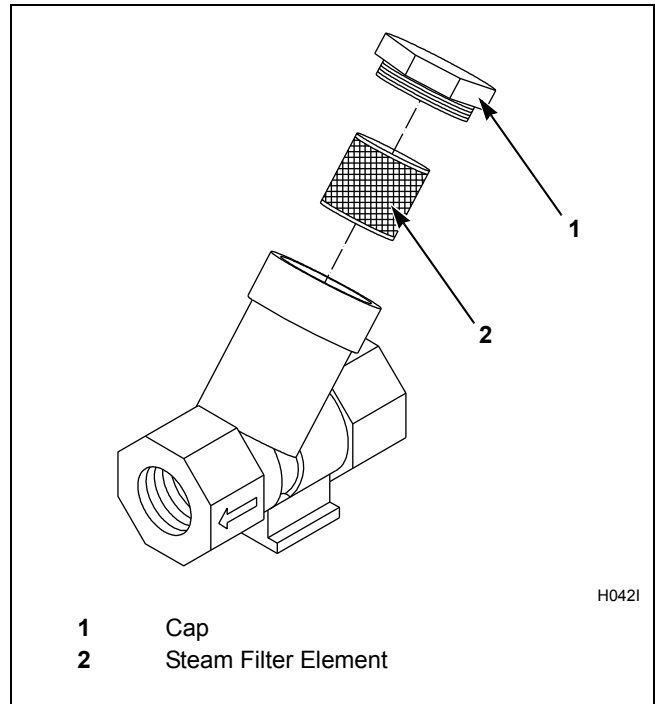

Figure 59
4. Clean customer-supplied steam filter, where applicable. Refer to *Figure 59*.